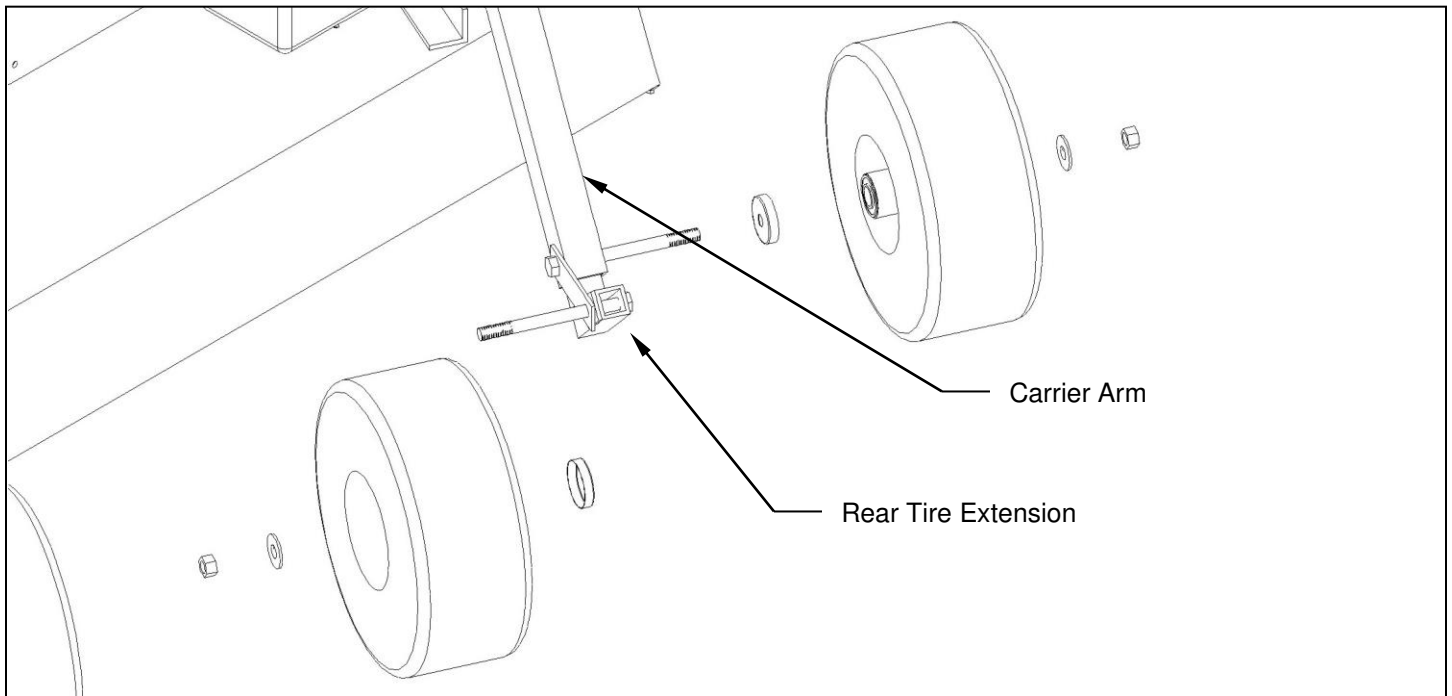

Figure 1. Right Rear Tire Extension
A. INSTALL REAR TIRE EXTENSION (Refer to figure 1)
2. Insert the rear tire extension into the lower rear opening of the right carrier arm. Align the hole on the rear tire extension with the hole on the carrier arm. Place a 5/8” x 7.5” bolt through the aligned holes in the correct orientation shown in figure 1. Place a 5/8” x 7.5” bolt in the other available rear tire extension hole using the correct orientation shown in figure 1.